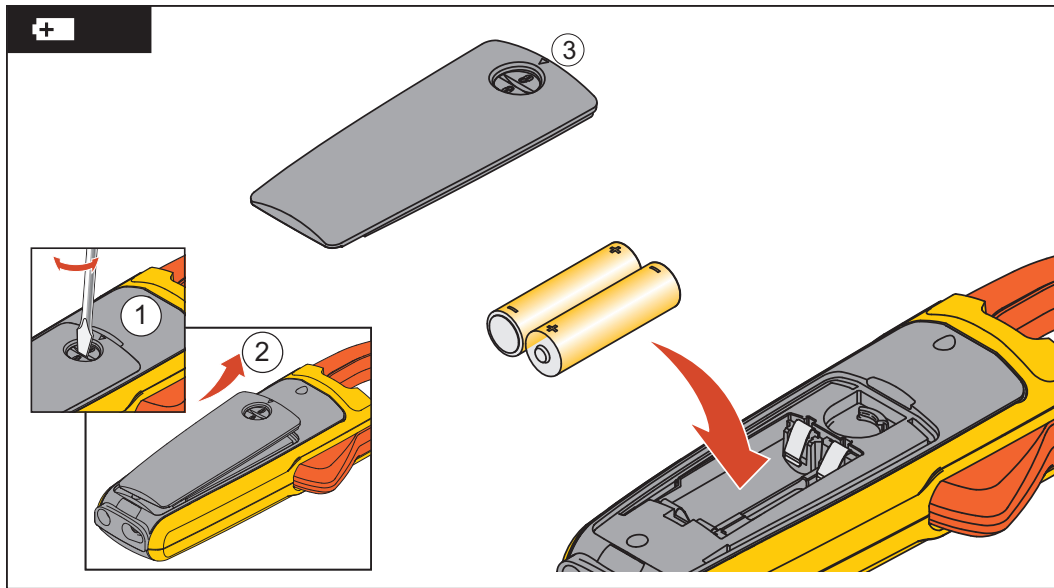

Figure 2. Changing the Batteries
2. Use a flat-head screwdriver to loosen the battery compartment door screw and lift off the battery compartment door. See Figure 2.
To change the batteries, see Figure 2: